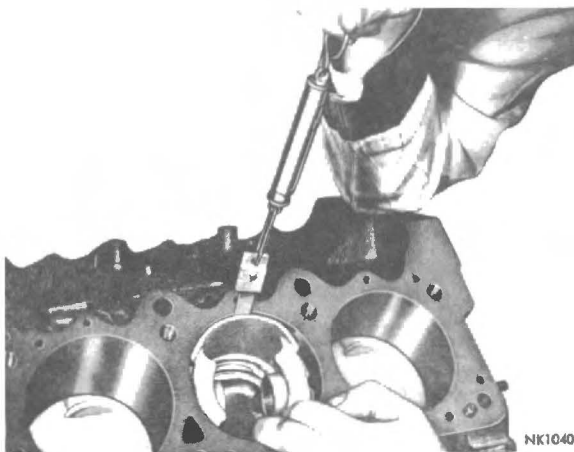

Fig. 28 Fitting Piston in Cylinder Bore
(1) Coat the cylinder bore lightly with SAE 10W engine oil. Insert the piston in the bore upside down with the feeler stock between the thrust face of the piston and the cylinder wall.
(2) Hold the piston and draw the feeler stock straight out, with the spring scale Tool C-690 as shown in Fig. 28. The amount of pull required should be from 5 to 10 pounds.